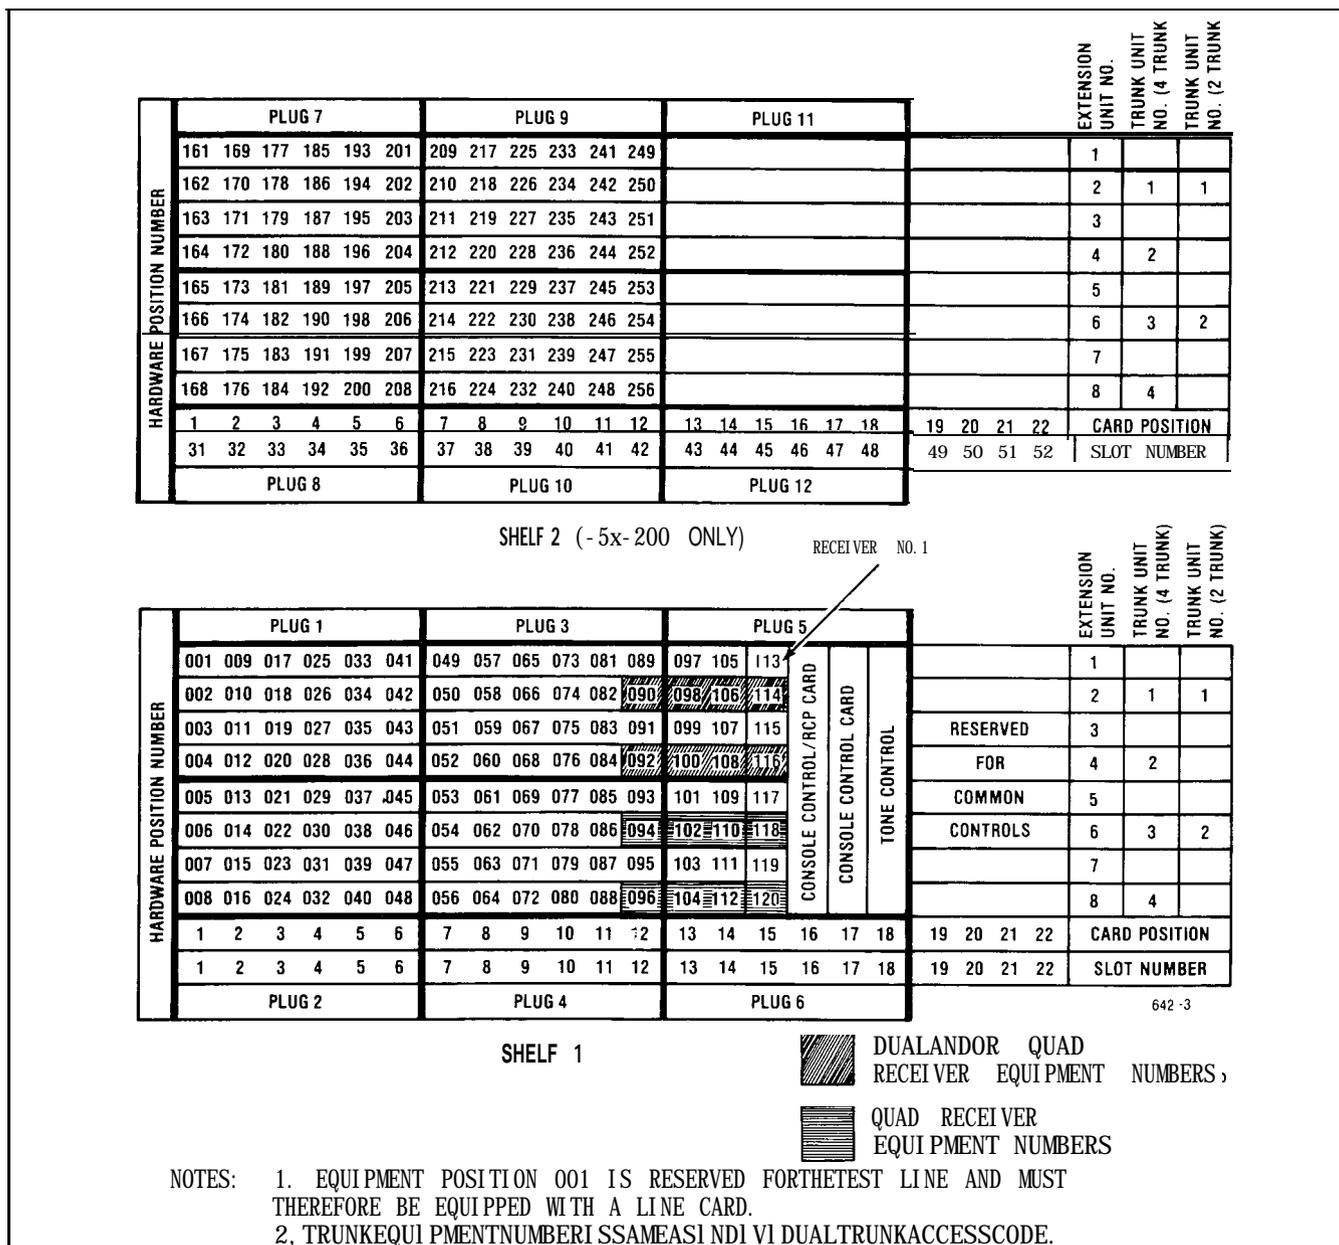

Fig. 2-1 Equipment Number
- * **EQPT NUMBER** The number (1-112, 161-256) entered after pressing the EQPT NUMBER key defines the equipment number of the line circuit serving the extension (Fig. 2-1).
- **EQPT NUMBER** The number entered (2-112; 162-256, even numbers only) specifies the equipment number of the trunk circuit serving this trunk (Fig. 2-1).